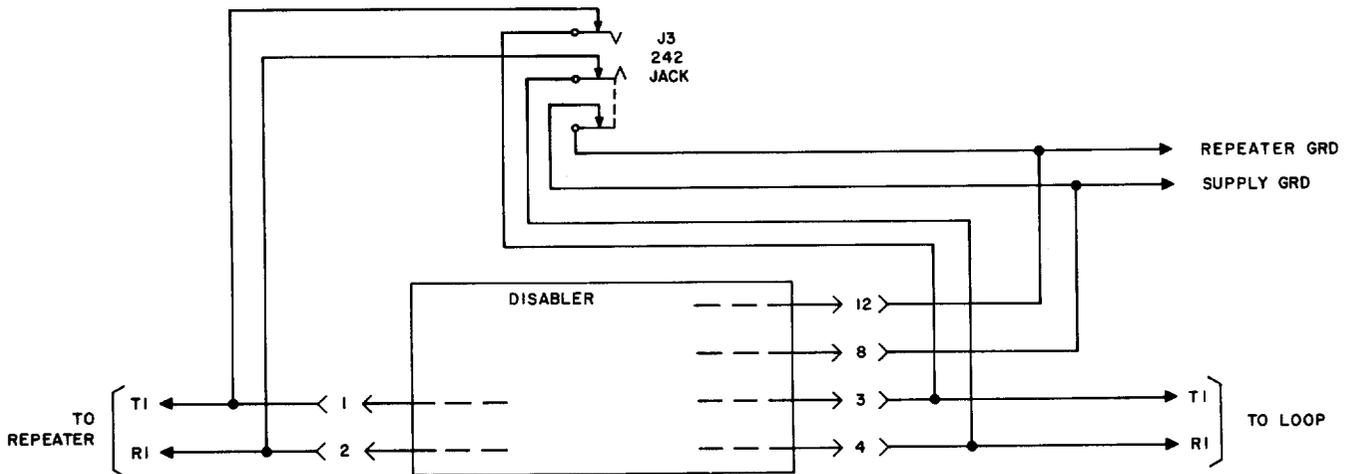

Fig. 2—Disabler Shelf Jack Circuit
2.04 When the disabler is removed from the mounting shelf, a plug mounted on the disabler is simultaneously removed from a jack that restores ground to the repeater and connects the loop tip and ring. This circuit is shown in Fig. 2.